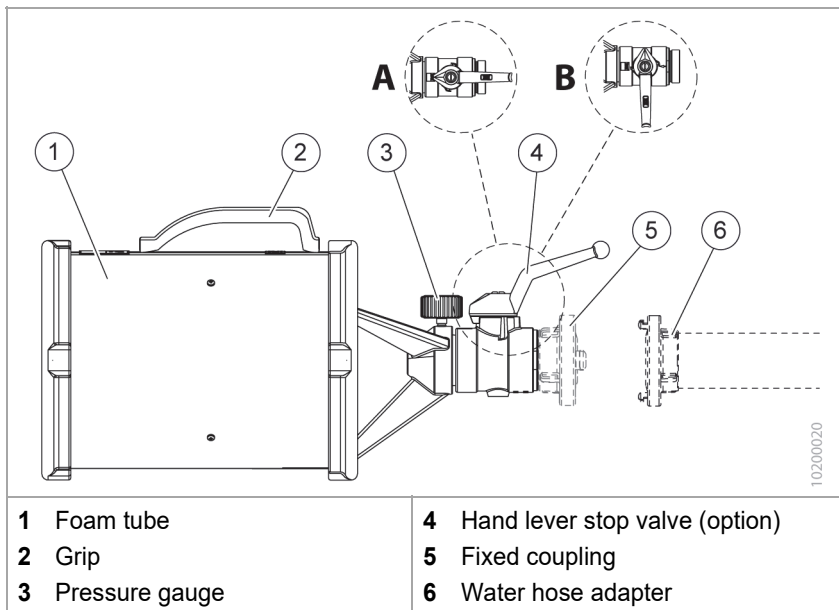

Fig. 2 Handling
- ✓ If the device is equipped with a stop valve with hand lever, the hand lever must be closed (Fig. 2/B).
1. By hand or with the use of a coupling spanner, attach the coupling of the water hose (Fig. 2/6) to the coupling on the foam nozzle (Fig. 2/5).
2. Point the finishing tube (Fig. 2/1) at the source of fire.
3. Point the finishing tube (Fig. 2/1) at the source of fire.
4. Open the foam nozzle by turning the hand lever (Fig. 2/4) longitudinal to the direction of flow of the water (Fig. 2/A).
5. Close the hand lever (Fig. 2/4) crossways to the flow direction of the water (Fig. 2/B).
5. Shut off the water supply and, by hand or with the use of a coupling spanner, detach the coupling of the water hose (Fig. 2/6) from the fixed coupling on the foam nozzle (Fig. 2/5).